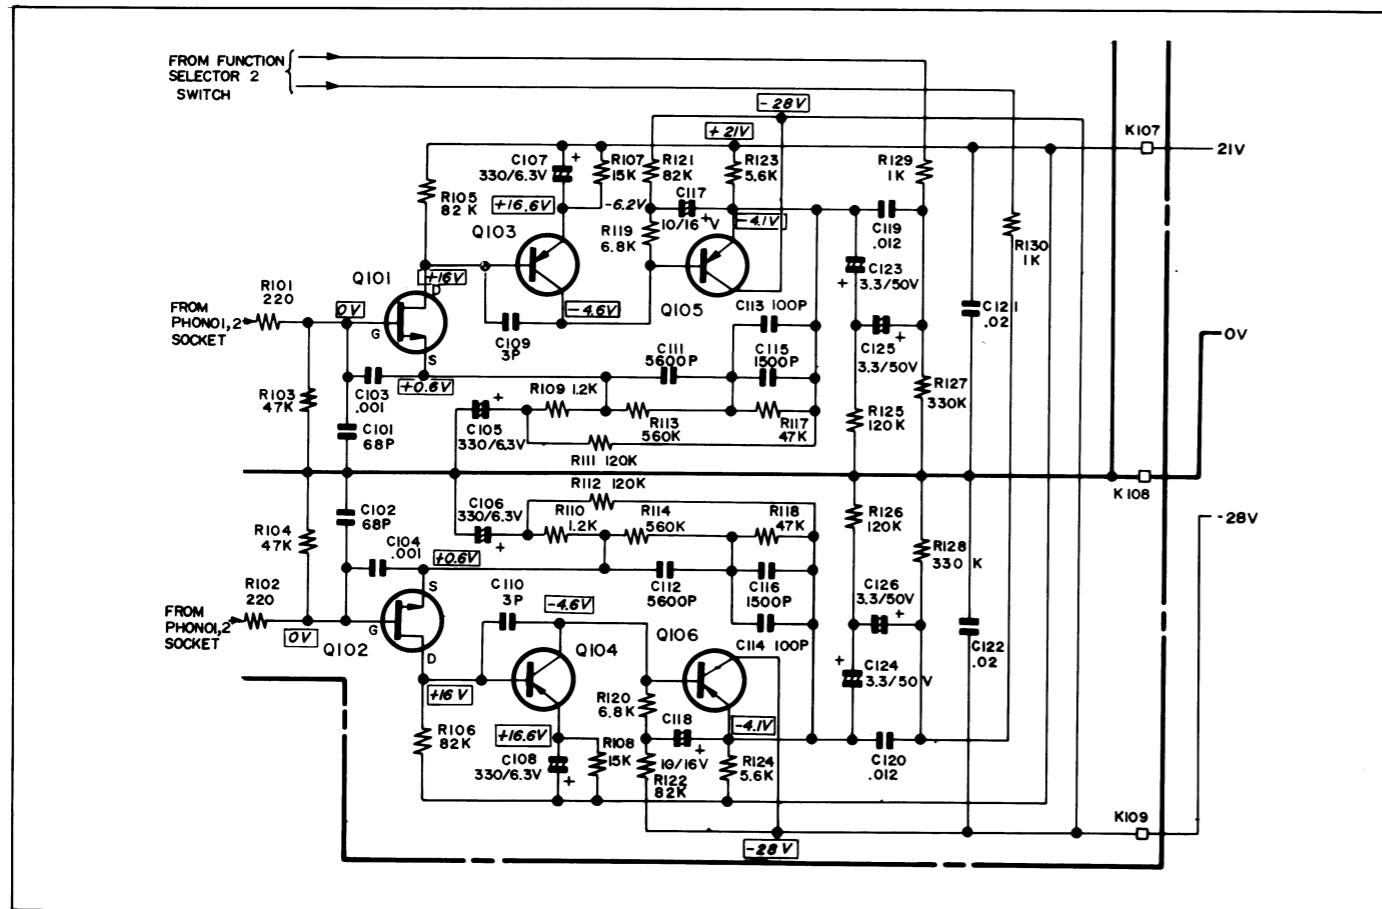

Figure 6
■ EQUALIZER CIRCUIT (See Figure 6)